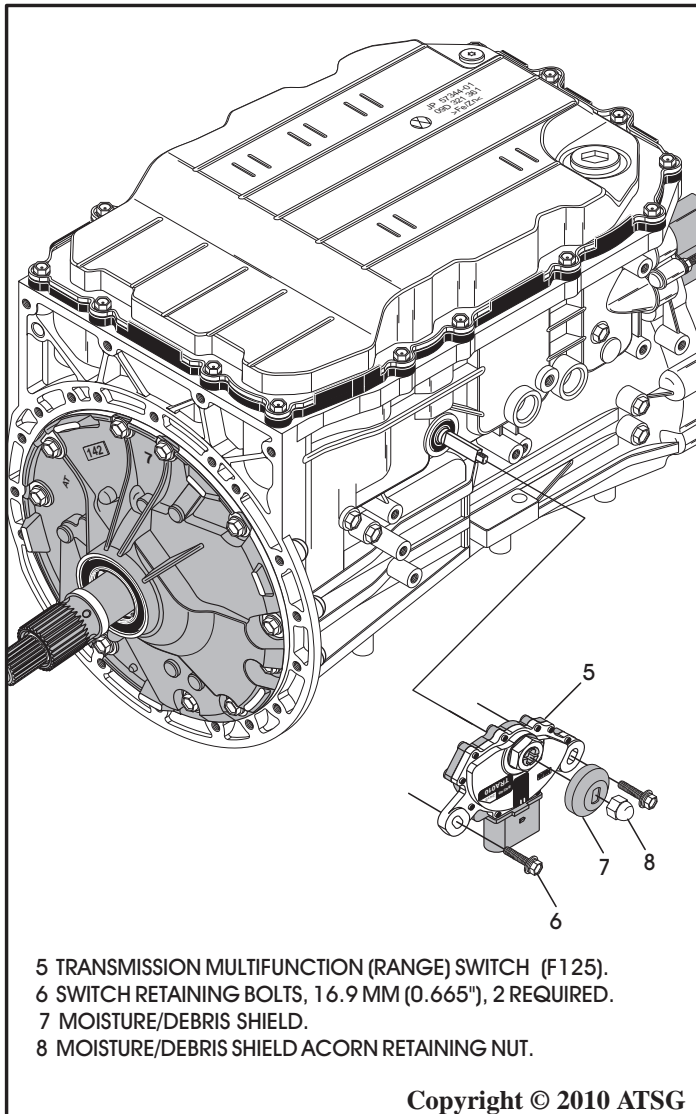

Figure 241
78. Install the transmission range (multifunction) switch, as shown in Figure 241.
80. Install the debris shield and acorn nut, as shown in Figure 241.